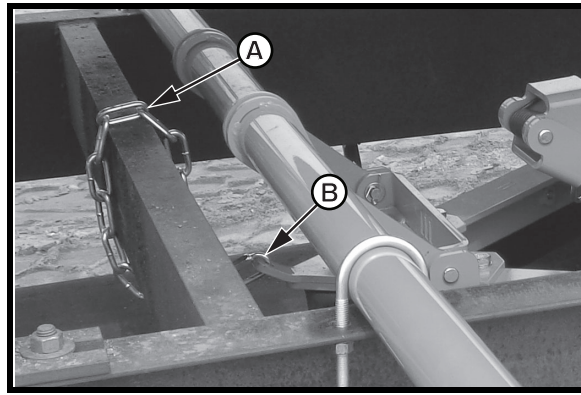

Figure 8. Installing Restraining Chain
3. Check the cleaning edge for wear. If it is worn almost to the frame weldment, replace as follows (see Figure 8):